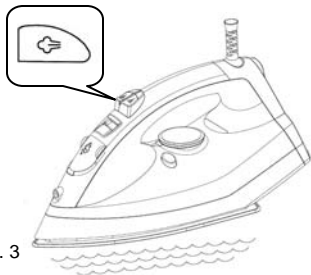

Fig. 3
3. With the iron in the horizontal position, press the burst-of-steam button several times to prime the pump. (Fig. 3)